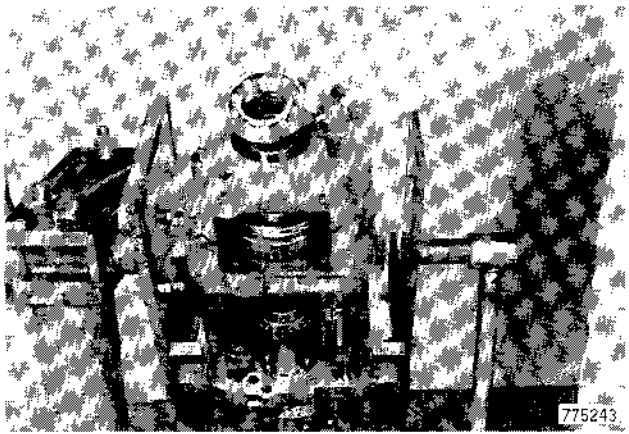

Figure 317
19. Place forward bearing in position, Figure 317.